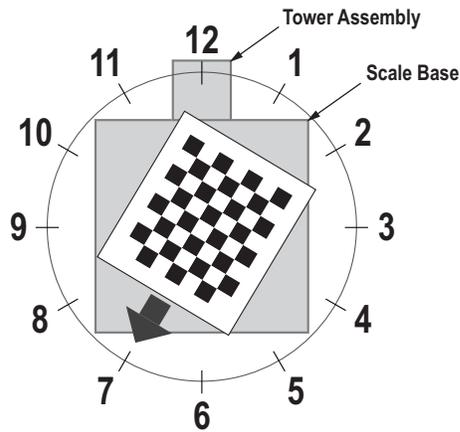

Figure 7-10. Rotate to 7 o'clock
- Align calibration object so the cross hairs are centered. Rotate the calibration object to 7 o'clock with the tower assembly being at 12 o'clock (Figure 7-10).